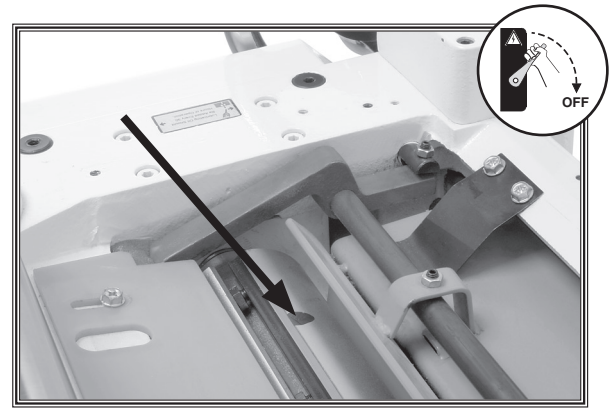

Figure 19. Jack screw access hole.
- Jack Screws**—Using a 3mm hex wrench, find the jack screws through the access holes in the cutterhead (**Figure 19**) and rotate the jack screws to raise or lower the knife. When the knife is set correctly, it will barely touch the middle pad of the knife setting gauge. Snug the gib bolts tight enough to just hold the knife in place. Repeat **Steps 5-7** with the rest of the knives.